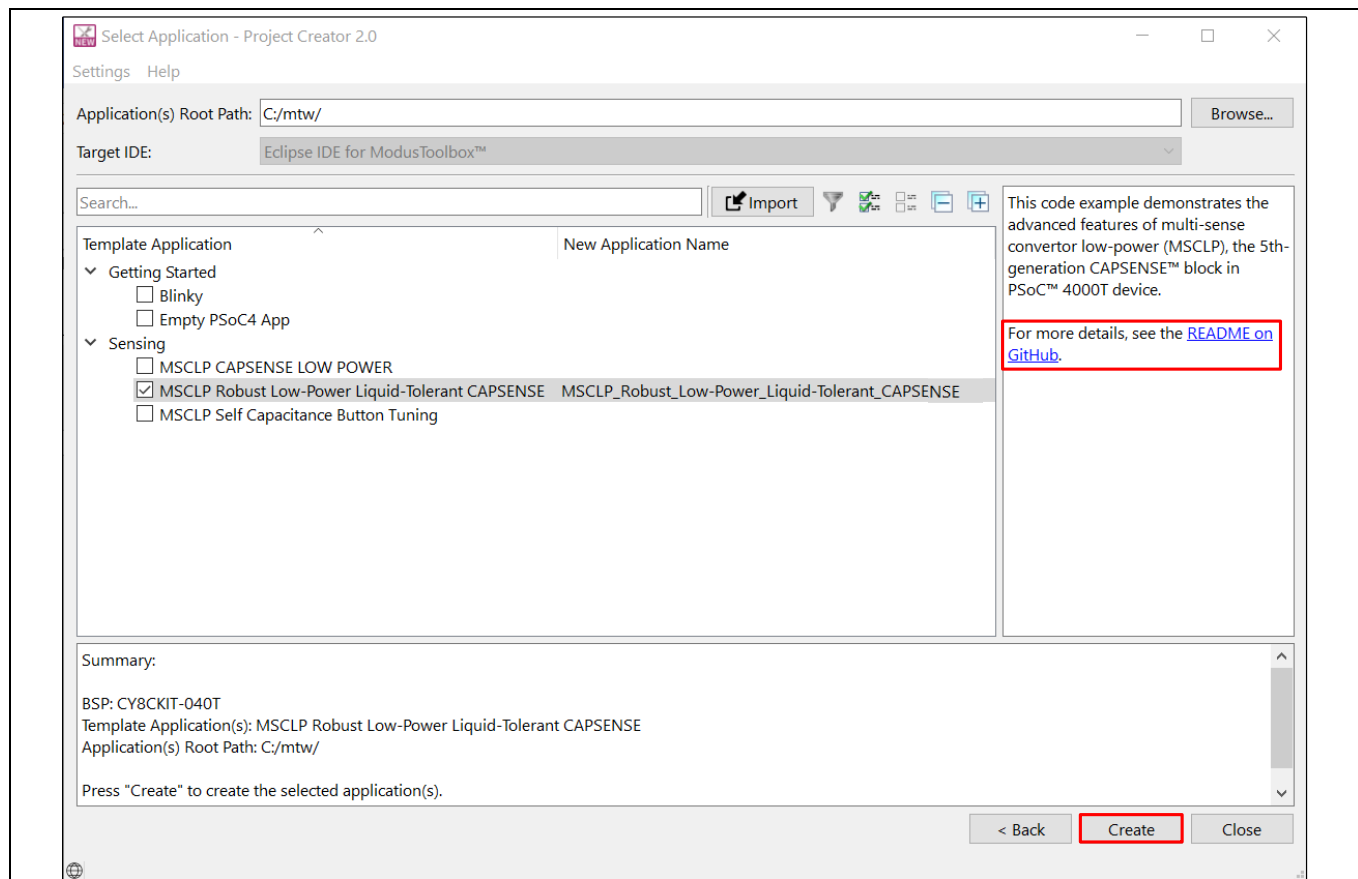

Figure 13 Creating a new application: Select Application
Note: More code examples are available in Eclipse IDE for ModusToolbox™ software (see Figure 13) or on the GitHub page dedicated to ModusToolbox™ software based examples to evaluate the board: PSoC™ 4: Blinky, PSoC™ 4: MSC LP CAPSENSE™ low power, PSoC™ 4: MSC-LP self-capacitance button tuning, etc.
b) Select the required application and click **Create**, as shown in Figure 13.